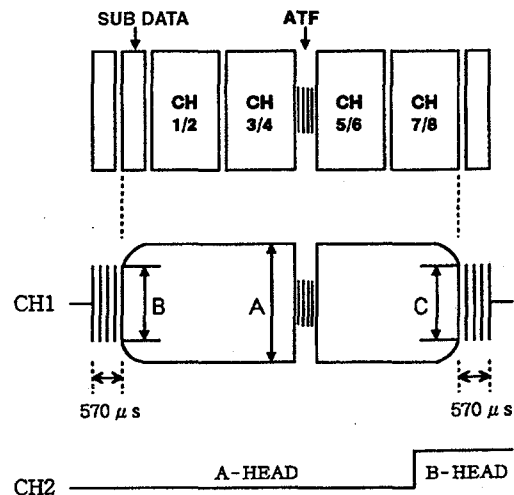

Fig. 2-14
6. Observe the waveform at TP1 (A-HEAD), and see that the following specification is satisfied. (See Fig. 2-14)
Specification (See Fig. 2-14):